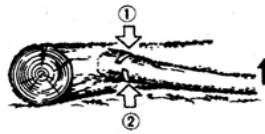

Fig. 15
- **CUTTING THE BRANCHES OF THE FALLEN TRUNK:** Make the initial cut from the bent side and finish by sawing from the opposite side (Fig. 15).